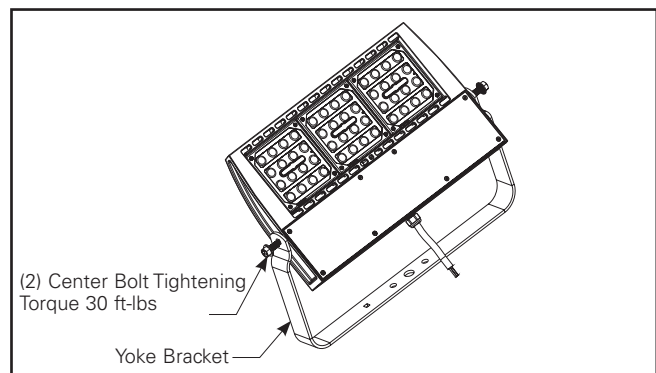

Figure 4.
- 1a. Use (2) 1/2 - 13 flange bolts. (long enough to go through the yoke arm and the mounting structure). Use nuts to secure bolts where applicable. Torque to 40 ft-lbs.
2. Loosen but do not remove the (2) center bolts (Figure 4).